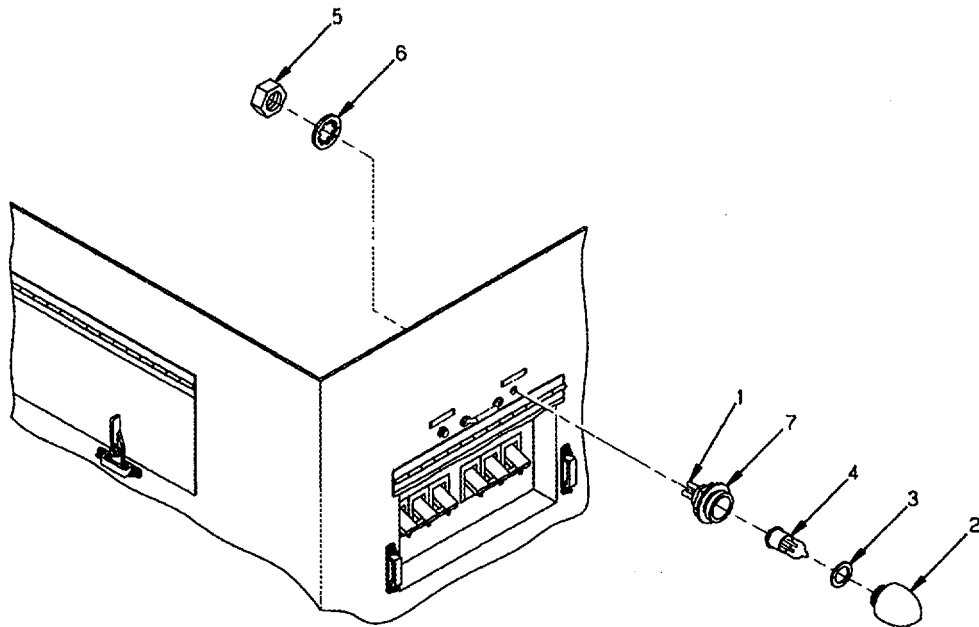

Figure 4-10. Indicator Light Replacement.
1. Tag leads connected to each terminal (1, figure 4-10) of indicator lamp housing to be replaced, and unsolder each lead.
2. Remove and retain lens (2), O-ring (3) and lamp (4).
3. Remove mounting nut (5) and internal tooth lock washer (6).
4. Slide indicator housing (7) out of switch box assembly.